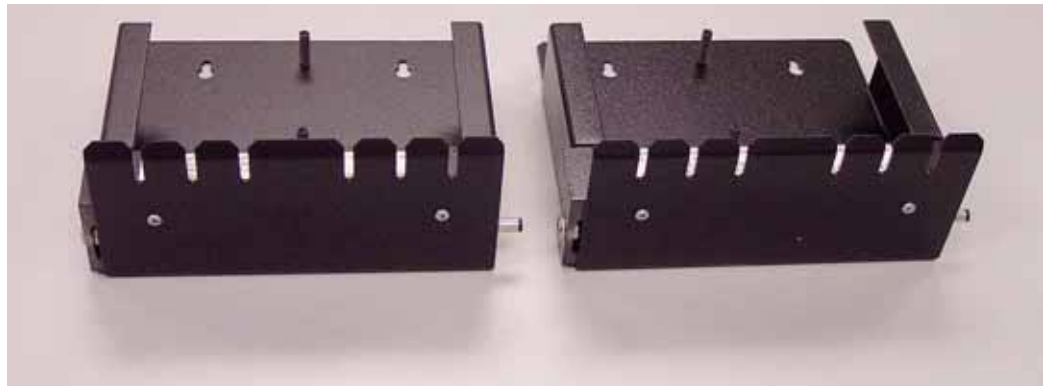

Figure 2-9. Daisy-chaining wall brackets for multiple pods
- If you are using multiple Pods, you can daisy-chain the wall brackets together (Figure 2-9). The connector on the bottom right of the first fits into a receptacle on the bottom left of the next bracket.